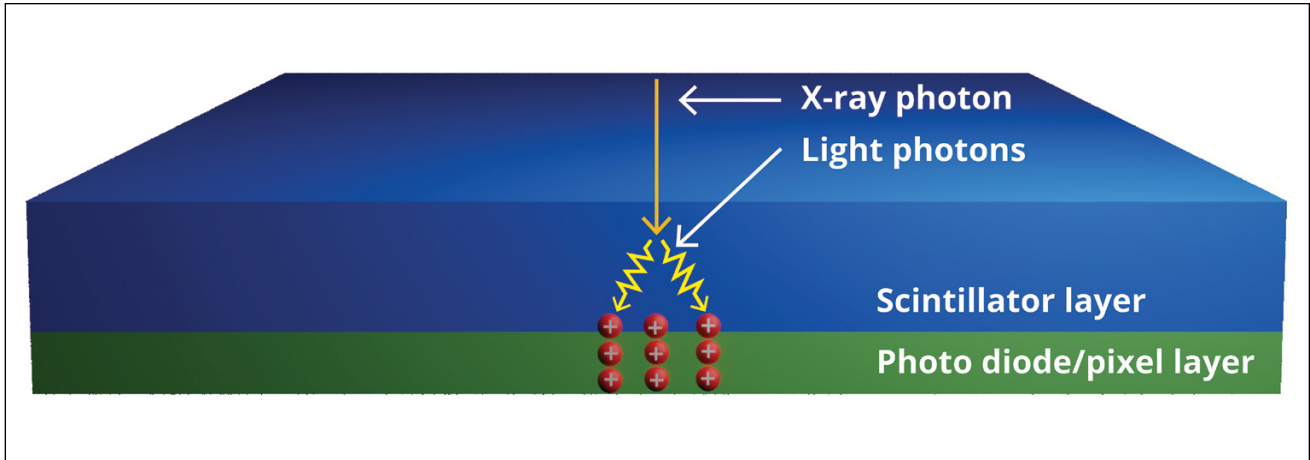

Fig. 3 – Indirect conversion process of digital x-ray flat panel detectors.
TFMi integrates up to four modes, allowing inspectors to simultaneously visualize flaws from multiple perspectives – Fig. 3.
Fig. 3 — PAUT sectorial scan (left), TFM TT (top middle), TFM TTT (bottom middle), TFM 4T (top right), TFMi TT, TTT, 4T and TTT (bottom right). (Credit: Sonatest.)
2. Image blurring: The visible light generated by the scintillator can scatter across multiple pixels, especially in detectors with thick scintillators, leading to blurred images (see Fig. 3).